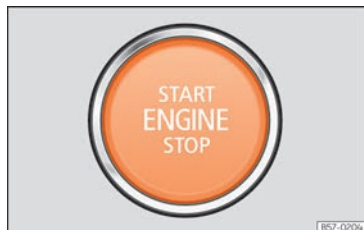

Fig. 161 In the lower part of the centre console: start button.
- Press the ignition and start button **»» Fig. 161** until indicator lamp **READY** lights up on the instrument cluster. Do not press the accelerator. Release the ignition and start button when the indicator lamp **READY** lights up on the instrument cluster. The mark on the power display changes from **OFF** to **0**.
- Press the starter button  **Fig. 161**; do not press the accelerator. There needs to be a valid key inside the vehicle for the engine to start. After starting the engine, the lighting of the **(START ENGINE STOP)** button remains fixed indicating that the engine is running.
- Briefly press the start-up button » » Fig. 161.